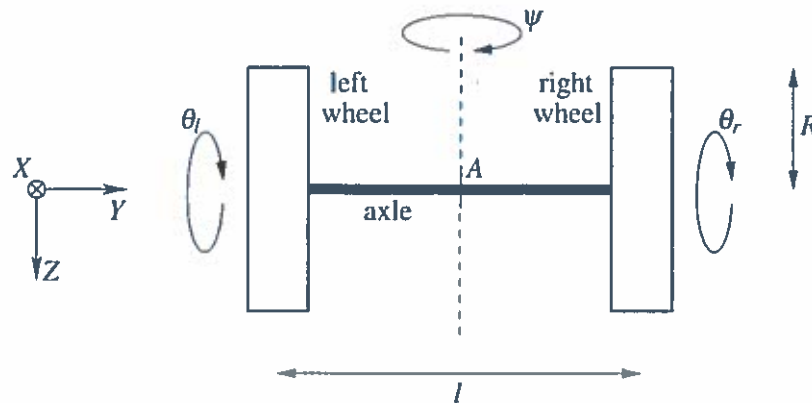

Figure 3.1 Two wheels on an axle.
3. Two identical uniform wheels of mass m and radius R each are held at their centre of mass respectively at the left and right ends of a uniform axle of length l , as shown in Figure 3.1. The axle has only one rotational degree of freedom about a vertical axis through its middle point, A , represented by an angle ψ . The axle moment of inertia about its axis of rotation is I_{axle} . The left and right wheels spin relative to the axle by angles θ_l and θ_r respectively. Each of the wheels is axisymmetric with spin moment of inertia I_{yy} and radial moment of inertia, passing through the wheel centre of mass, I_{xx} .
An axle-fixed Cartesian coordinate system with unit vectors i' , j' and k' is used to analyse the motion of the system. This coordinate system has its origin at point A , it rotates with the axle and its unit vectors are initially respectively aligned with the earth-fixed axes X , Y and Z , in which X is into the page, as shown in Figure 3.1.